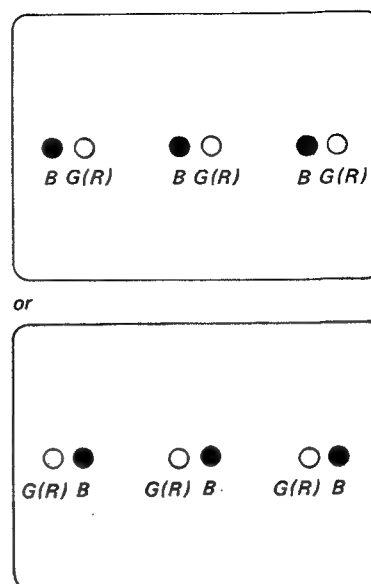
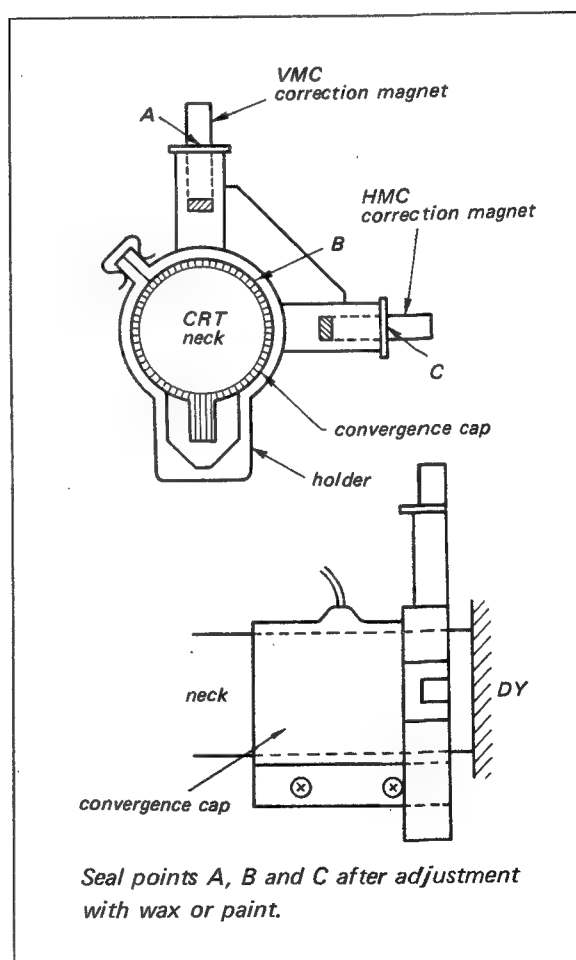

Fig. 3-5.
Fig. 3-6.
2. If the dots do not converge with the green and red dots at the centre of the screen, adjust the horizontal magnetic convergence control (HMC) as necessary. See Fig. 3-5 and Fig. 3-6.